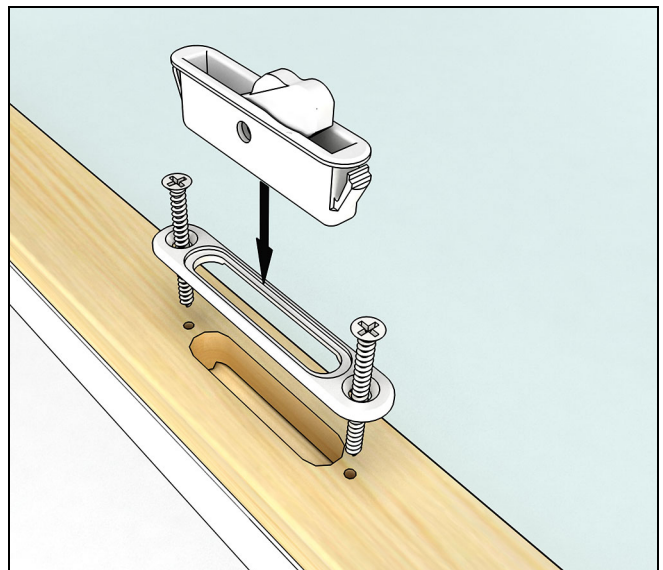

Figure 6
14. Manually fasten the WOCD face plate to the top sash with two #6 x 1-1/2" screws. Then snap the WOCD's into the WOCD face plates and the routes on the stiles. Do not over-tighten the WOCD face plate screws. See Figure 6.